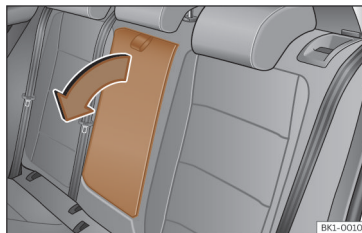

Fig. 97 Folding rear centre armrest (schematic view).
- To *lower* the armrest, pull the cord in the direction of the arrow >>> **Fig. 97**.